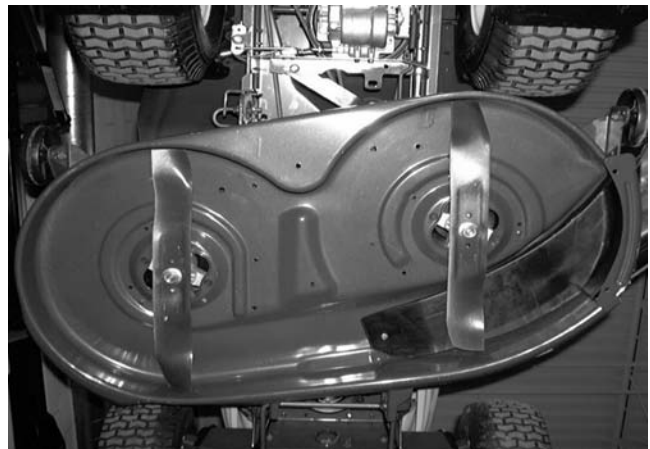

FIGURE 1.
- 1). Using a work glove or rag, rotate the blades until they are parallel with the tractor frame. See figures 1 and 2.